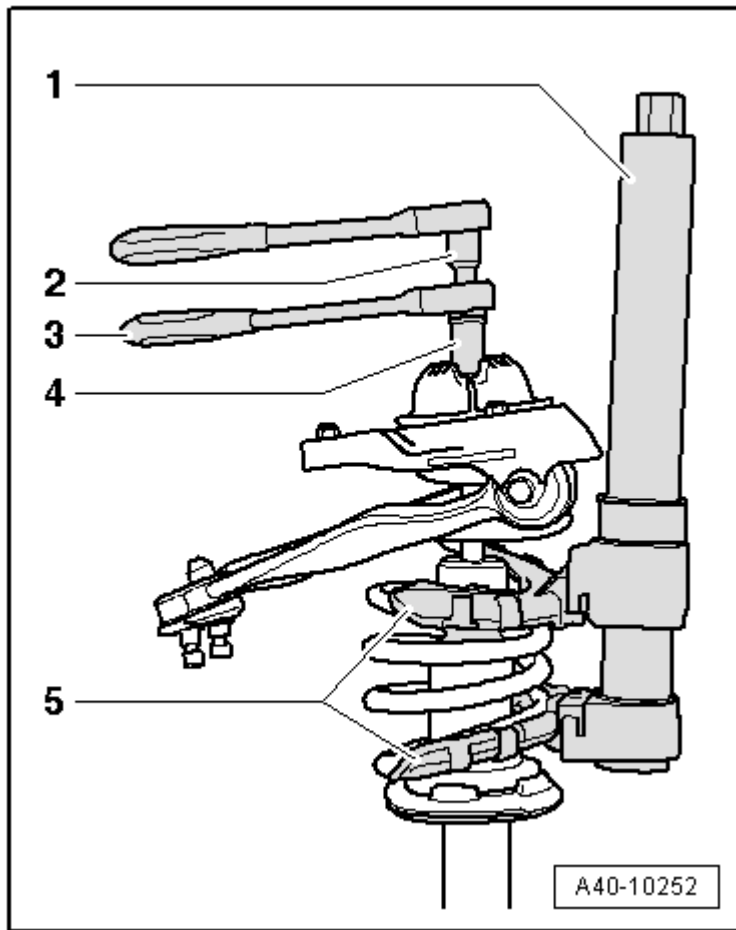

Fig. 119: Using Tools -2, 3 And 4- To Remove Coil Spring
- Removing, refer to **Fig. 119**